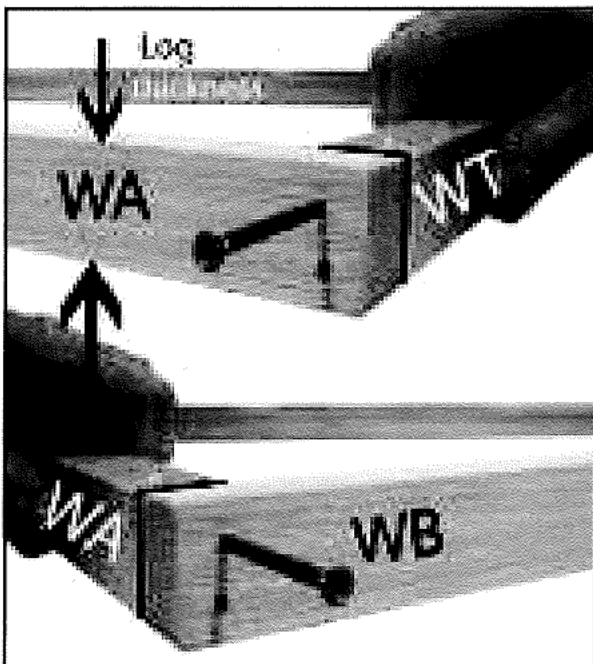

Fig A1
4. Lay out the parts **WA** and **WB** and **WT** as in the inner frame assembly drawing. The narrowest (25mm) edge to the work bench and the side the size is the same as the log thickness as shown in fig A1 . Part **WT** must be inside parts **WA** and part **WB** underneath the two **WA** parts (Fig A1) .
5. Pre drill 2 3mm holes at one end of the **WA** only and at both ends of the **WB** parts (see drawing)and screw together at each corner,10mm in from the edge (ensuring each corner is flush) with 2x50mm screw (fig A1).